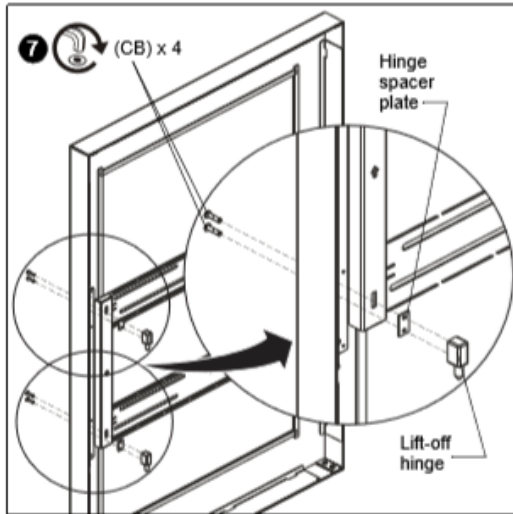

Figure 13
6. Replace two lift-off hinges and hinge spacer plates onto opposite side (left) of swing door assembly. (See Figure 13)
7. Fasten in place with four (two each hinge) **NEW** 10-32 x 3/4" button head cap screws (CB). (See Figure 13)